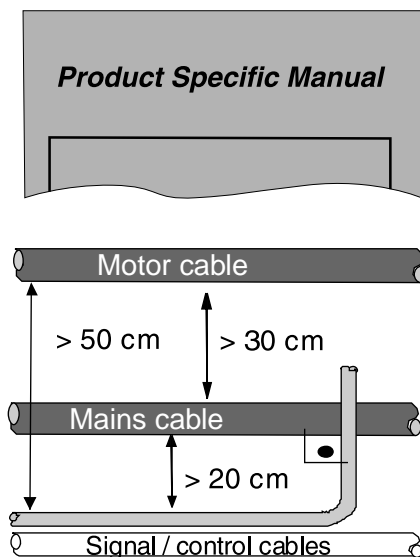

Figure 3-11 Routing principles of control cables.
- Route signal cables according to figure 3-11 whenever possible and follow instructions given by the product specific manuals.